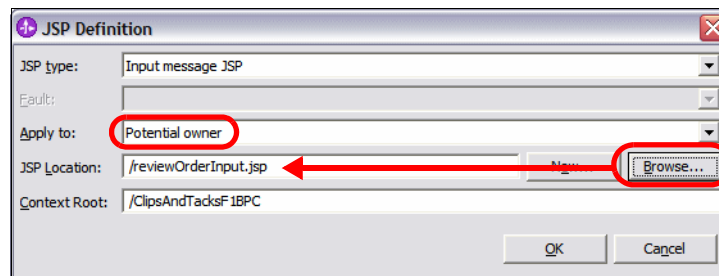

Figure 10-52 JSP selection for a human task
- ▶ In the JSP Definition dialog select *Input message JSP* for type and *Potential owner* for apply to. Then click *Browse* and locate the `reviewOrderInput.jsp` in the `ClipsAndTacksF1BPC` project (Figure 10-52). Click *OK*.
Note: At the time of writing, the following work-around was required to fix a problem populating the JSP Location field in Figure 10-52: